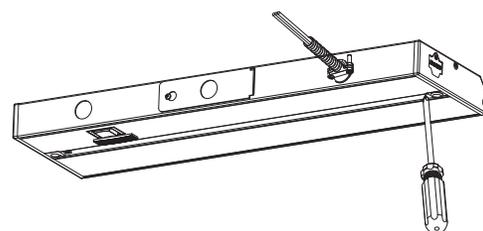

Figure 11
6. Re-attach the cover of wiring compartment. Push all the wires into the wire compartment first, and then place the wire compartment cover to the fixture and attach with screws (Fig. 11)